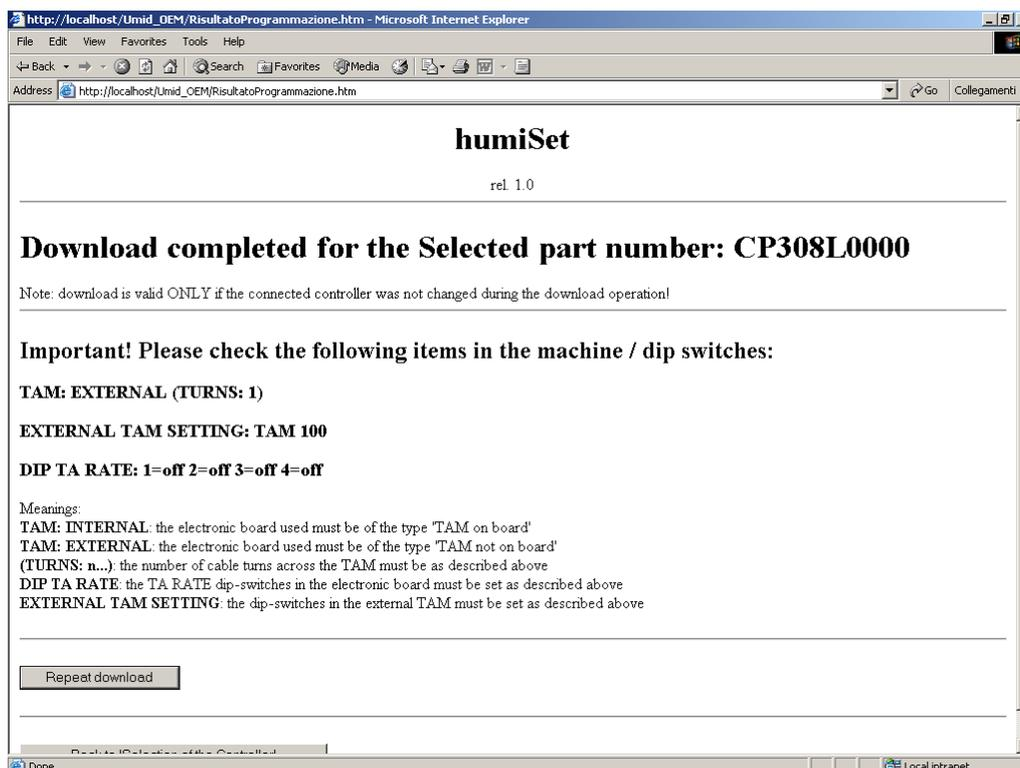

Figure 39
- If the programming is performed correctly, the following page will be displayed (Figure 39):